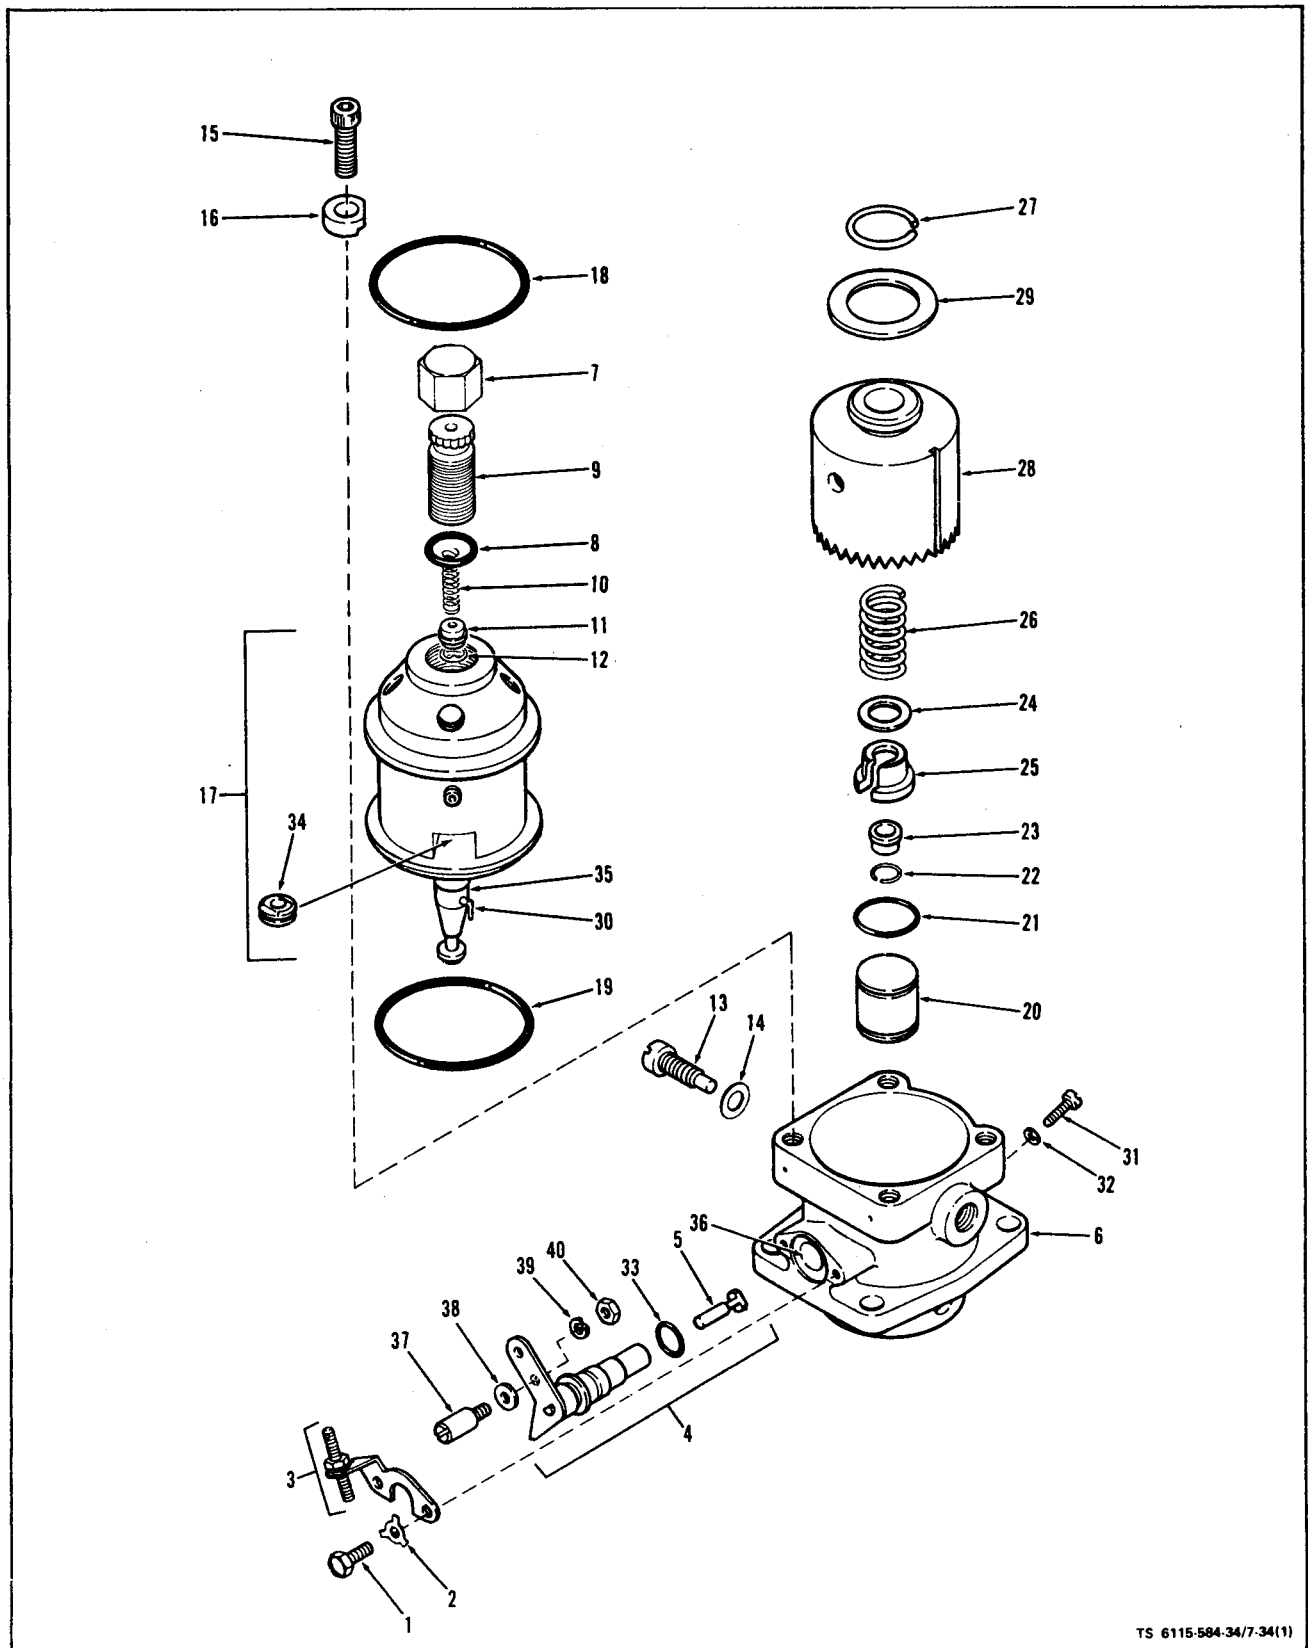

Figure 7-34. Disassembly of Fuel Injection Pump (Sheet 1 of 2)
(2) Clamp the mounting fixture in a suitable vise.
(3) Install the pump into the mounting fixture, with two 0.3125"-18 UNC-HEX head screws.
(4) Release lock tabs (2) and remove the two control unit retaining plate screws (1) and tab washers (2, figure 7-34) and the control unit retaining plate and stop assembly (3). Carefully pull the control unit assembly (4) with plunger sleeve pin (5) out of the pump housing (6). Plunger sleeve pin occasionally may have to be removed separately. Use needle nose pliers or magnetic pencil.
(5) Remove the delivery valve cap nut (7) and gas-ket (8).
(6) Remove the delivery valve holder (9) then lift out the delivery valve spring (10), delivery valve assembly (11) and delivery valve spacer (12).